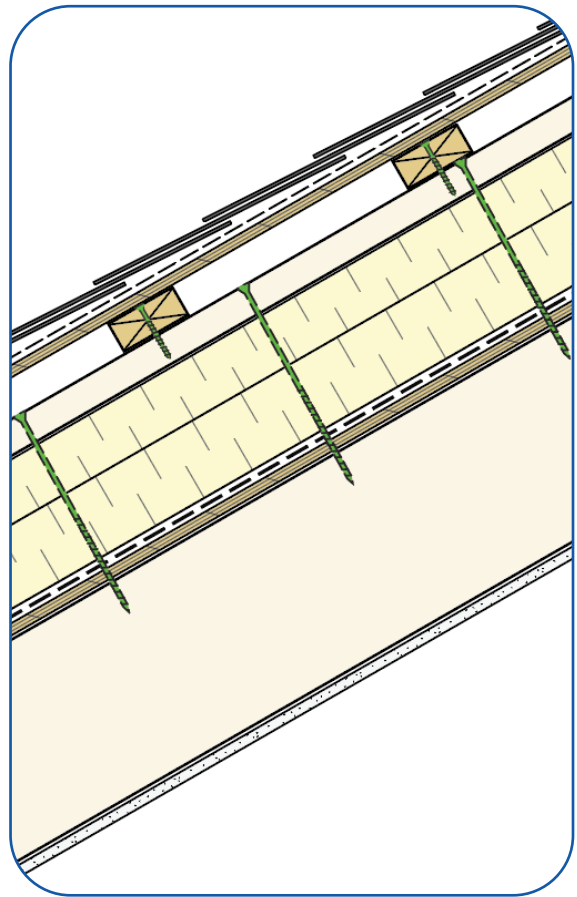

Figure 5 Section view of an exterior-insulated sloped roof showing rigid insulation attachment with long screws through strapping.
- Figure 5 Section view of an exterior-insulated sloped roof showing rigid insulation attachment with long screws through strapping. . . . . 10